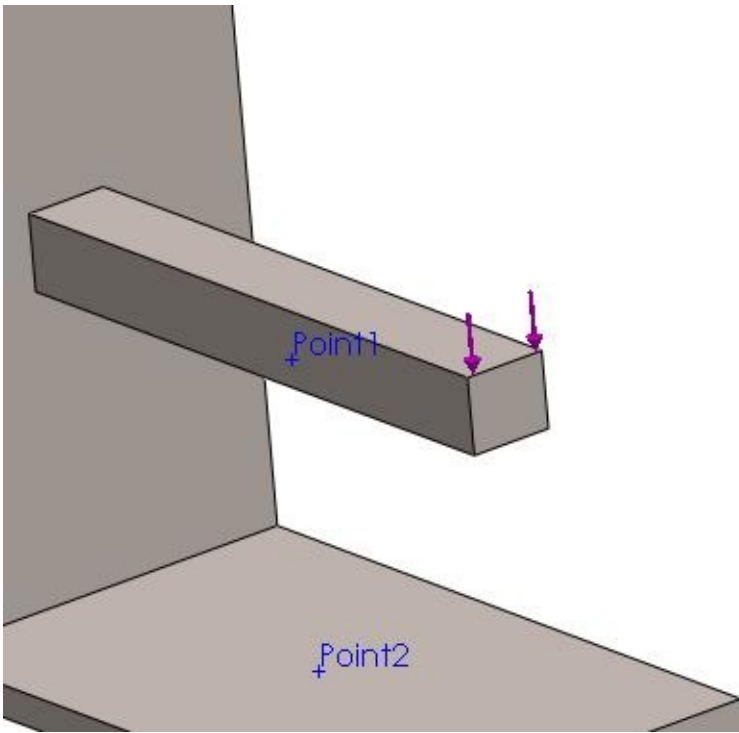

Figure-8. Force applied
- Click on the **OK** button from the **PropertyManager**. The force will be applied; refer to Figure-8.